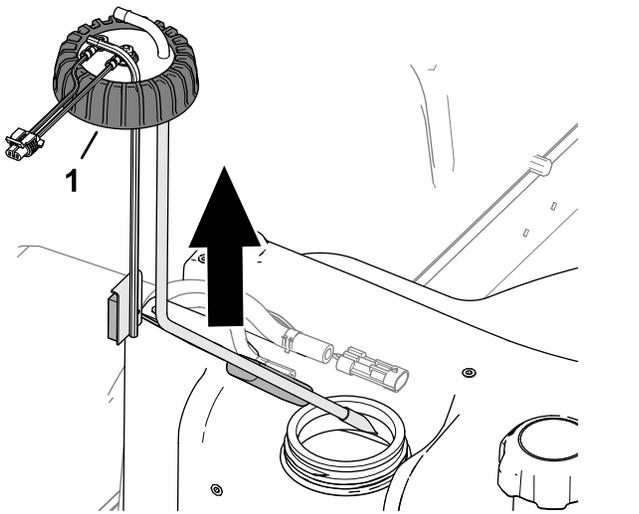

Figure 91
- 5. Loosen the fuel-sender cap (Figure 91).